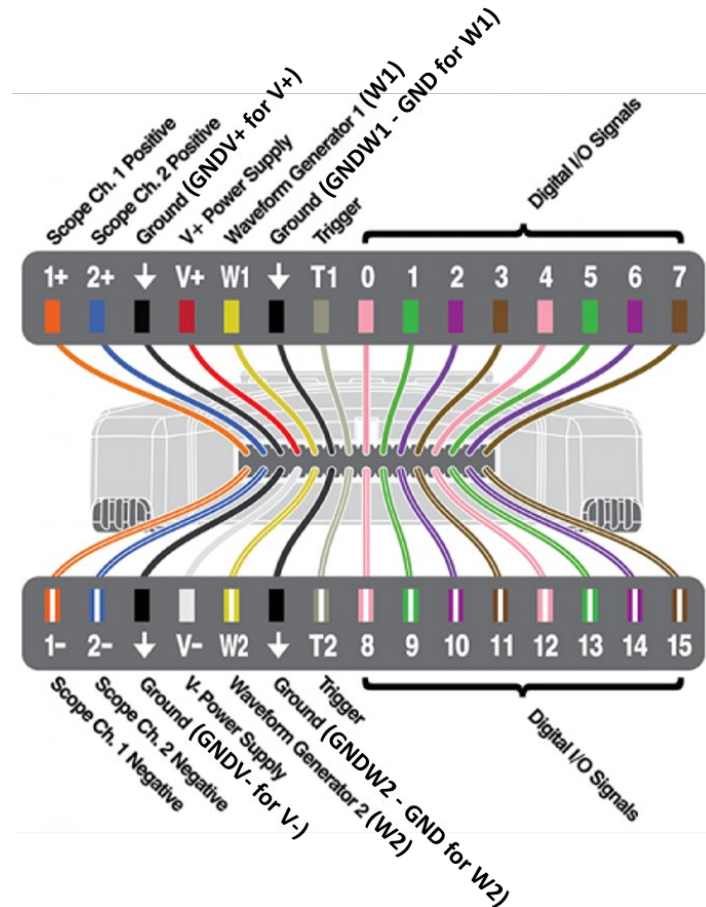

Fig. 5 Diagram for the port definition of an Analog Discovery 2 (AD2)
- 3.3 Use the port definition diagram of the AD2 shown in Fig. 5 when setting up your circuits.